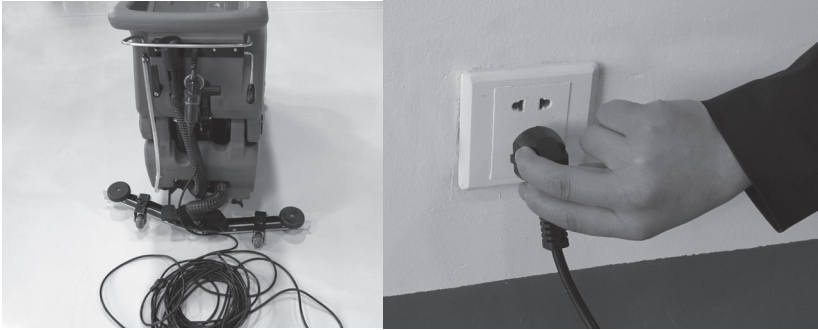

Figure 5
4. Plug the power cable's plug into a socket that is well grounded following the diagram below (Figure 5)